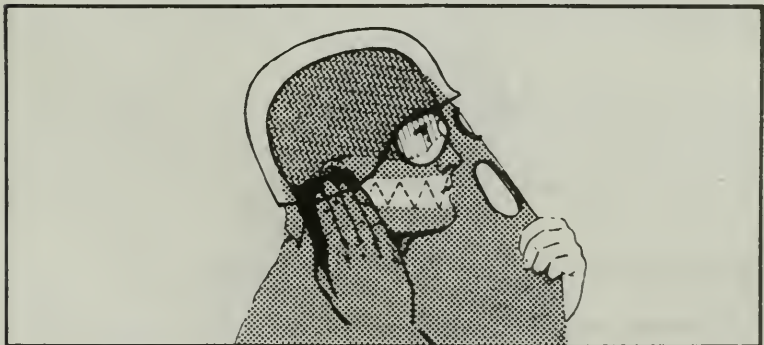

Figure 268. Decontaminating the face.
- i. Scrub up and down from your ear to the end of your jawbone (Figure 268).
- (1) Begin where step h ended.
- (2) Scrub across your cheek to the corner of your mouth.